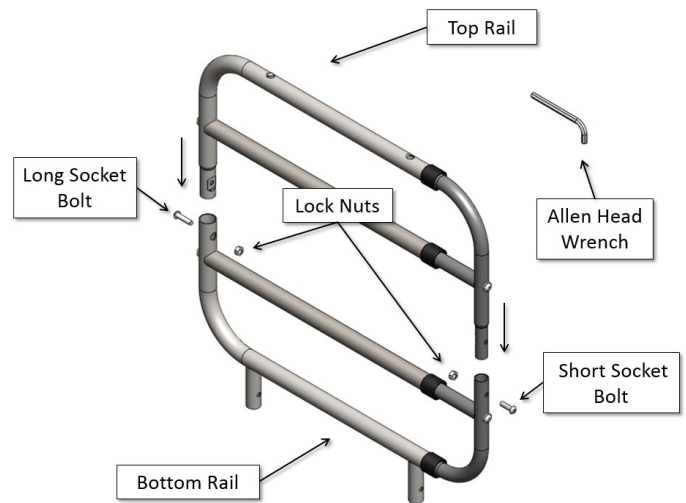

Figure 2
2. Using the included Allen Head Wrench, insert Top Rail into Bottom Rail and secure the rails together with the Long Socket Bolt, Short Socket Bolt, and 2 Lock Nuts as shown in Figure 2.